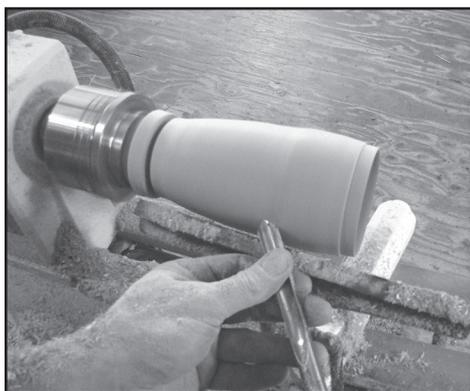

Fig. 15
9. Shape the outside of the blank. Turn the top so it transitions nicely into the stainless steel insert lip. Gently taper the blank from top to bottom and add beads and coves as you like. Be aware of the wall thickness so you don't cut through. **Fig. 15.**